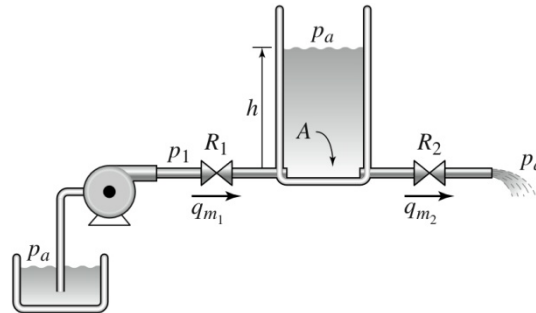

Fig. 3
3. Figure 3. Shows a liquid-level system with a pump input and a drain whose linear resistance is R_2 . The inlet from the pump to the tank has a linear resistance R_1 . Obtain a linearized model of the liquid height h